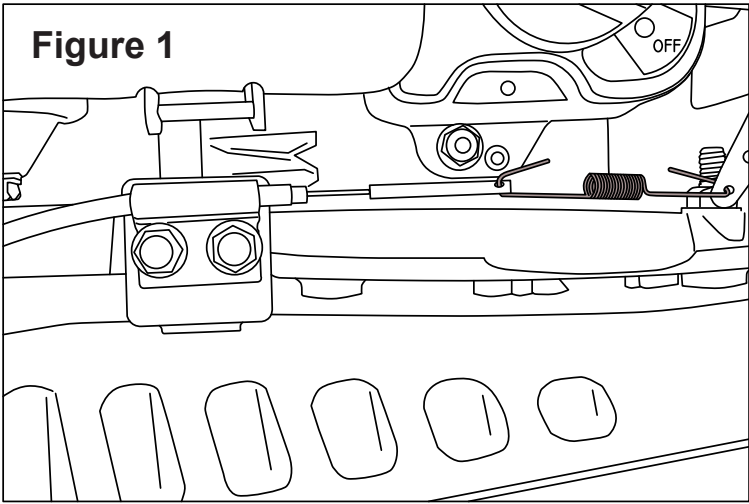

Figure 1
1. Disconnect the spring from the idle cable and the speed control lever on the engine. (Figure 1)
4. Connect the spring to the idle valve cable and the speed control lever on the engine. (Figure 1)